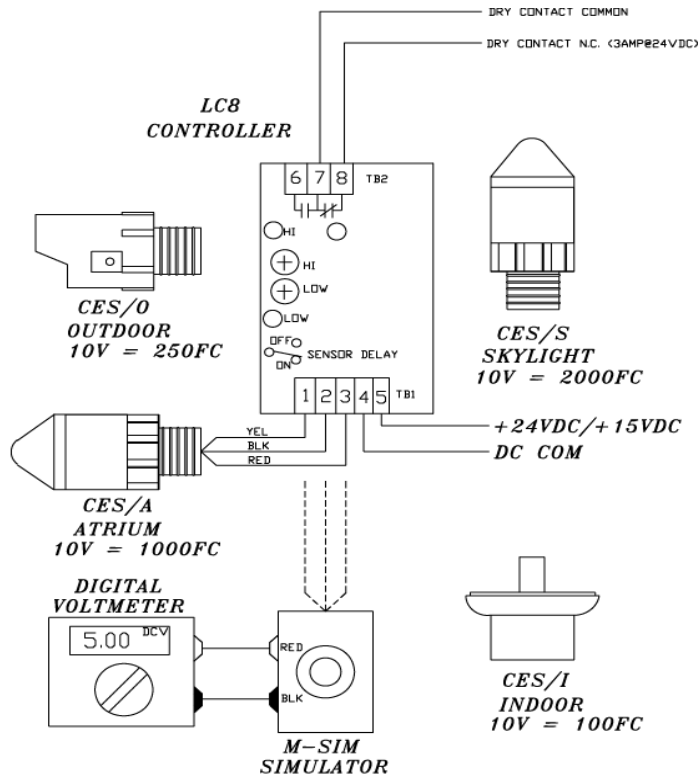

Figure 1: LC8 w/CES Sensor and M-Simulator
The LC8 +24VDC (+15VDC) power should be connected to Terminal 5 at the bottom of the controller board; DC Common should be connected to Terminal 4 (see Figure 1).
The LC8 Form C output has Common connected to Terminal 7 (LOAD RATING 3A MAX), the Normally Open contact is connected to Terminal 6, and the Normally Closed contact is connected to Terminal 8 (see Figure 1).
CES sensor has three (3) wires. The Yellow wire should be connected to Terminal 1 at the bottom of the controller board. The Black wire should be connected to Terminal 2 and the Red wire should be connected to Terminal 3 (see Figure 1).
The Black wire should be connected to Terminal 2 and the Red wire should be connected to Terminal 3 (see Figure 1).
1. Switch the Input Delay Switch OFF (UP).
2. Plug the DVM into the Simulator and attach the Simulator to the LC8 in place of the Sensor (see Figure 1).
8. Unplug the Simulator from the LC8 and rewire the Sensor in its place (see Figure 1).